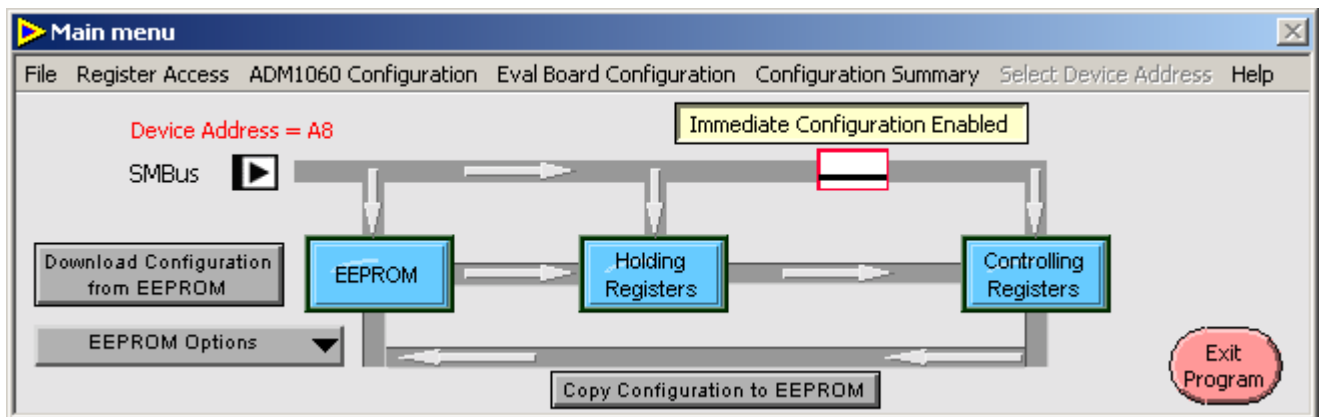

Figure 23. Floating Menu Bar (Normal mode)
- 1. Normal Mode (Figure 23):** One ADM1060 detected; working on-line. Figure 23.